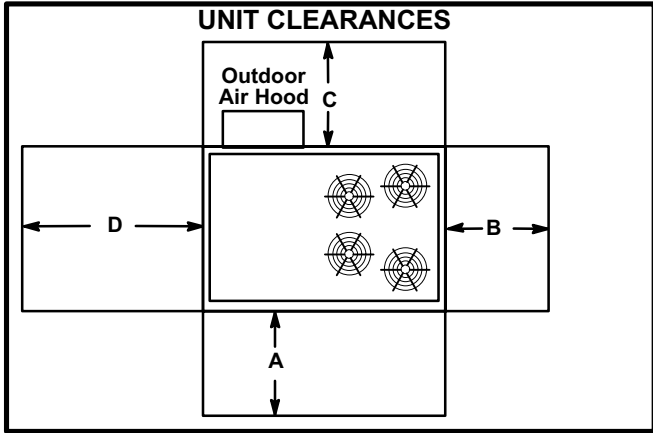

FIGURE 1
The THA unit is ETL certified for outdoor installations only at the clearances to combustible materials listed on unit nameplate and in figure 1.
The THA unit is ETL/CSA certified as a heat pump with cooling and with or without auxiliary electric heat for non-residential use only at the clearances to combustible materials as listed on the unit nameplate and in figure 1.
- 2- Specified installation clearances must be maintained when installing THA units. Refer to figure 1.